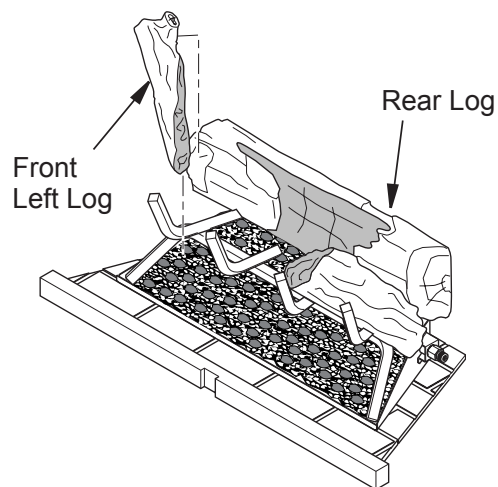

Figure 25 - Installing Log 3
3. Rest front of front left log between first two grate fingers on left of grate assembly and rear into notch on left front of rear log (see Figure 25).